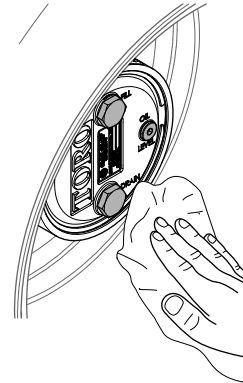

Figure 95
- Wipe clean the planetary and brake housings (Figure 95).